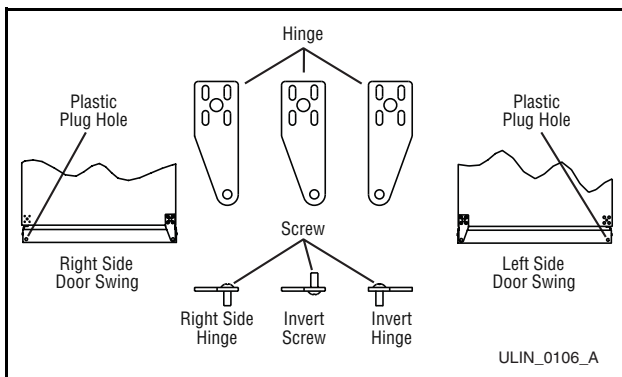

Figure 32
4. Remove four plastic plugs in hinge holes, invert screw and reinstall pivot screw in top hinge (**Figure 32**). Do not install hinge on cabinet at this time.
6. Remove pivot screw from bottom hinge, invert screw and reinstall pivot screw in hinge (**Figure 32**).